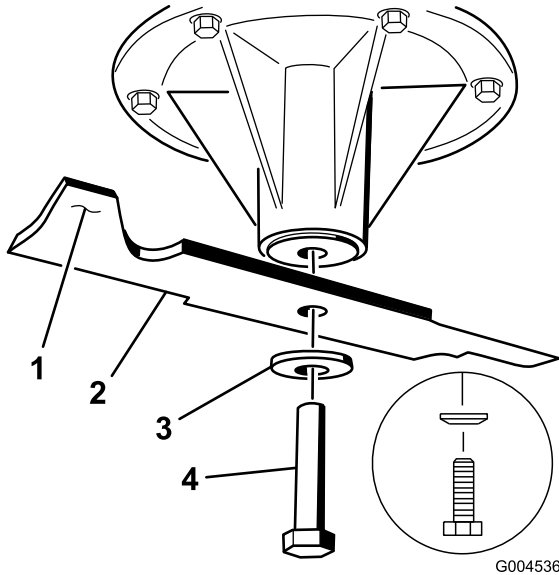

Figure 98
the sail area only (Figure 98). Repeat this procedure until the blade is balanced.
1. Install the blade onto the spindle shaft (Figure 98).
2. Install the spring disk and blade bolt. The spring disk cone must be installed toward the bolt head (Figure 98). Torque the blade bolt to 85-110 ft-lb (115-150 N-m).